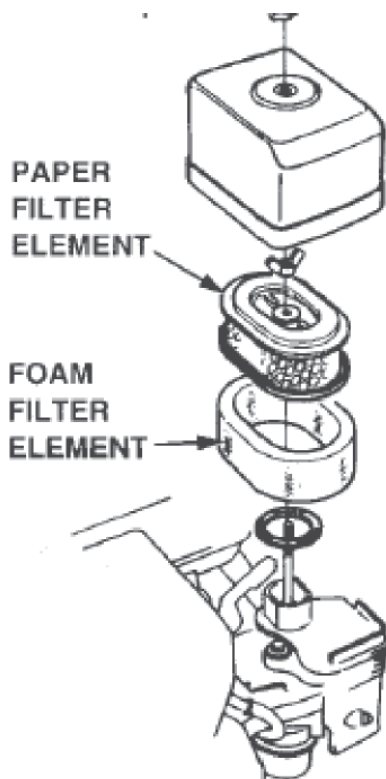

Figure 15. Air Filter
1. Remove the air cleaner cover and foam filter element as shown in Figure 15.
2. Tap the paper filter element (Figure 15) several times on a hard surface to remove dirt, or blow compressed air [not exceeding 30 psi (207 kPa, 2.1 kgf/cm²)] through the filter element from the air cleaner case side.